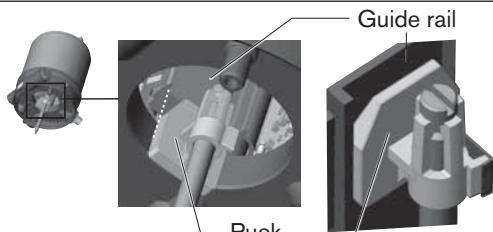

Fig. 7: Aligning the puck
1. the puck can be inserted into the guide rail of the control head (see "Fig. 7") and